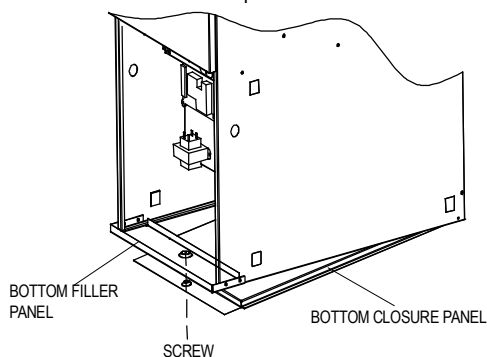

Fig. 5 - Removing Bottom Closure Panel
1. Tilt or raise furnace and remove the screw holding bottom filler panel. (See Fig. 5.)
These furnaces are shipped with bottom closure panel installed in bottom return-air opening. Remove and discard this panel when bottom return air is used. See 6.1 and Fig. 5 for bottom closure removal.